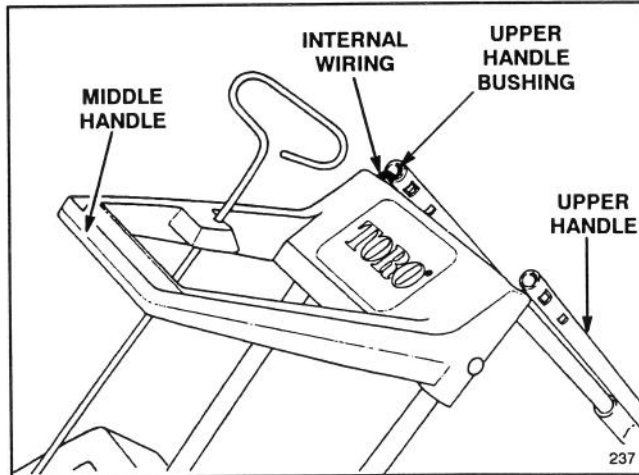

Figure 1
- Thoroughly inspect the open internal wiring (Fig. 1) before assembling snowthrower. If wiring is damaged, do not assemble or plug in snowthrower. Contact your TORO Service Dealer or TORO Service Center.
1. Stand snowthrower upright and position upper handle in inverted position to prepare for handle assembly (Fig. 1). Inspect the open internal wiring for damage.
Note: Do not remove bushing from upper handle tube (Fig. 1).